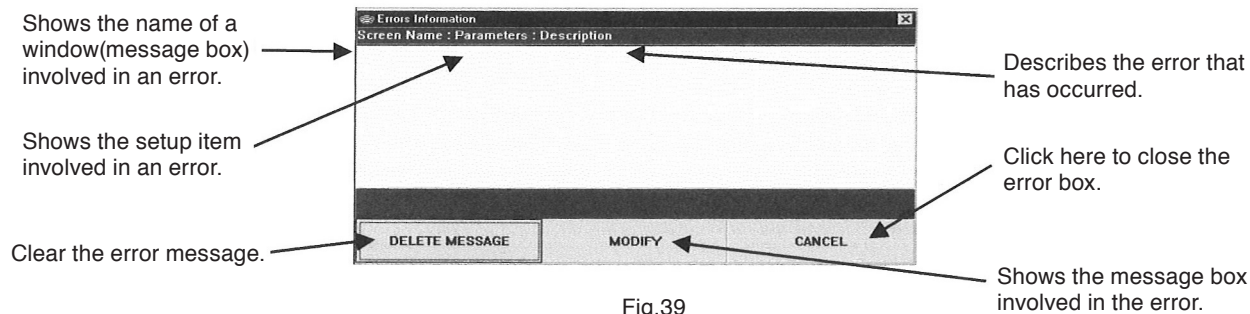

Fig.39
- ② A little later, an error box "Communication error" as shown in Fig. 39 appears. Confirm the nature of error at this point. The faulty setup data that has been entered is canceled and the previous setup data is restored. For safety's sake, check the current settings against those in the parameters list or the database by opening the respective window.